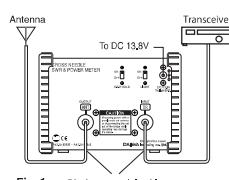

Fig. 1 50 ohms coaxial cable
1. Use only 50 ohms coaxial line for connections. This will maintain the accuracy of the meter. (Fig.1)